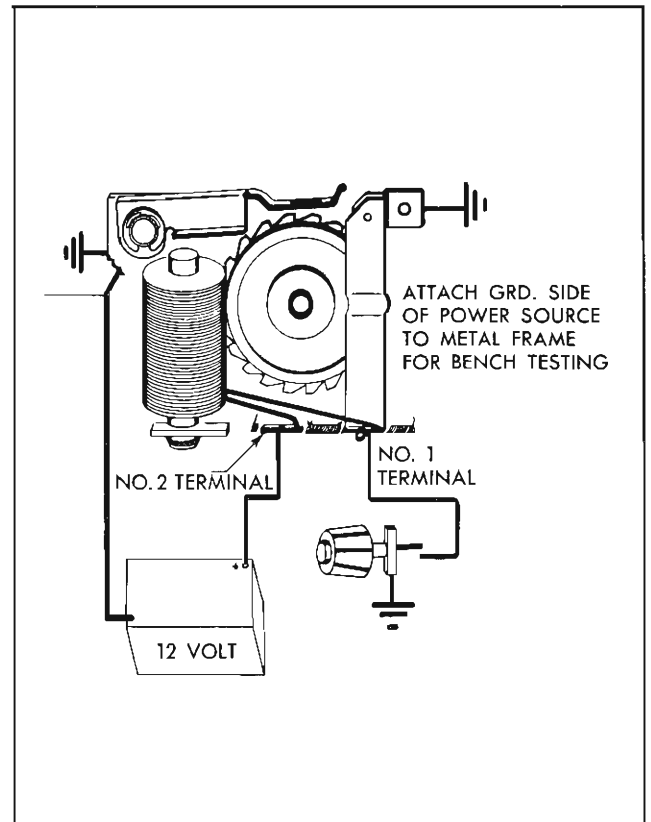

Fig. 11-80 Pump Wiring Circuit
Depressing the dash switch washer button closes the washer pump relay circuit to ground. (Refer to Fig. 11-80). (NOTE: If wiper was "off" the wiper switch is mechanically turned on to the "On" position by the washer button.)
1. Remove washer pump cover and connect 12 volt power supply to washer pump as shown in Fig. 11-80. Connect jumper wire from terminal No. 1 to ground. Turn ratchet pawl to the position shown in Fig. 11-80. Ratchet pawl should be pulled toward relay pole and engage ratchet teeth. Failure to do as described above indicates an open relay coil.